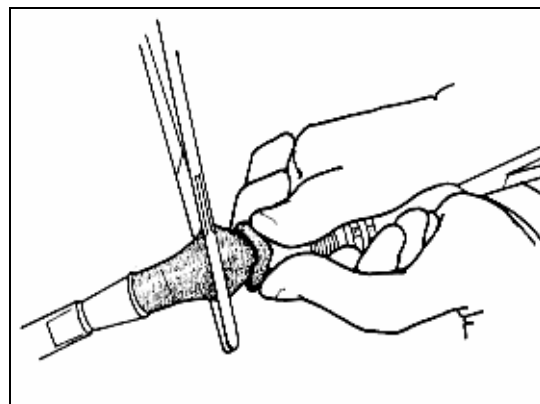

Figure 11: Removing the Silicone Connector
- 11** The silicone connector is removed from the Pump tubing (see Figure 11).